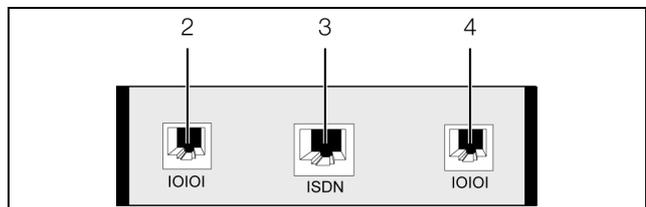

Fig. 9: Rear of the ISDN unit
- 2 Connection of the CMC III Processing Unit RJ 12/RS 232, 24 V $\overline{\text{---}}$, 500 mA (alternative to item 4)
- 4 Connection of the CMC III Processing Unit RJ 12/RS 232, 24 V $\overline{\text{---}}$, 500 mA (alternative to item 2)
- Connect the ISDN unit to the building's ISDN connection using an RJ 45 connection cable (fig. 9, item 3).
- Connect the ISDN unit to the CMC III Processing Unit using an RJ 12 connection cable (fig. 9, item 2 or item 4).